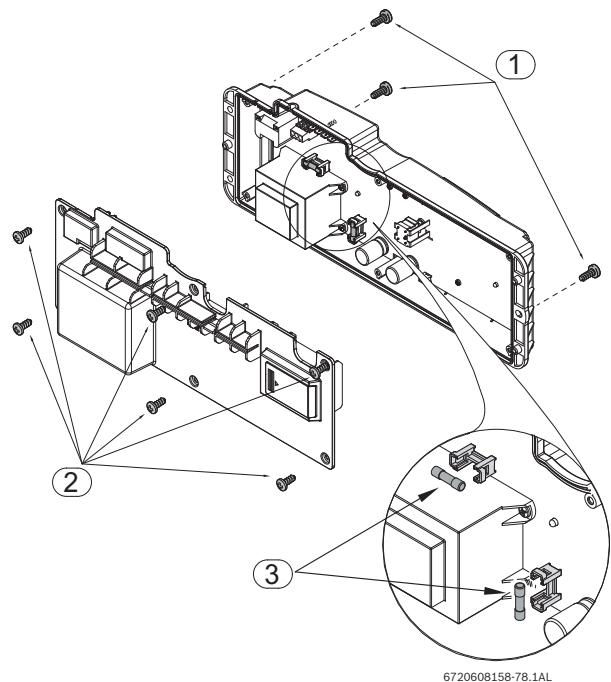

Fig. 39 Fuses position
- Remove the six screws from the back cover of the control unit, see Fig. 39, pos. 2.
- Check the fuses on the printed circuit board, see Fig. 39, pos. 3.